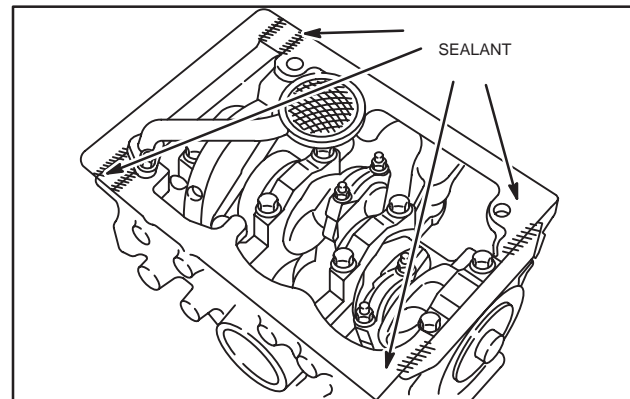

Fig. 23 – Installing Oil Pan
- Apply a small bead of Permatex® No. 2 or similar sealant to crankcase areas shown, Fig. 23.